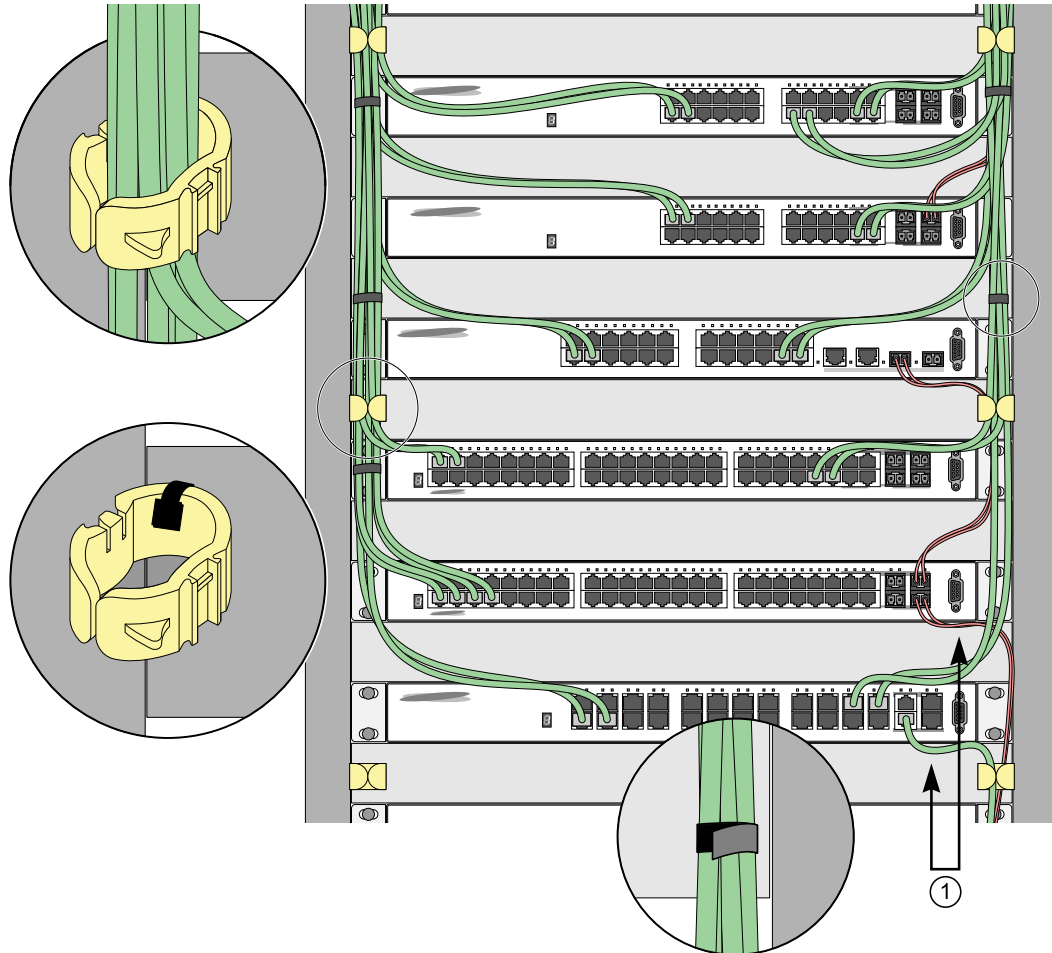

Figure 31: Properly Installed and Bundled Cable
- Provide enough slack, approximately 5 to 7.5 cm (2 to 3 in), to provide proper strain relief as shown in Figure 31 on page 47.
- When installing a patch panel using twisted pair wiring, untwist no more than 2.5 cm (1 in) of the cable to avoid radio frequency (RF) interference.